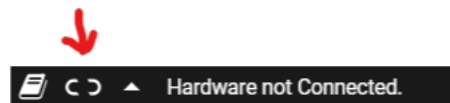

Figure 5. COM Port Status When Ports Are Not Connected
- If the app does not connect to the CFG_port or the connection fails, try to connect to the target by clicking in the bottom-left corner of the app (see Figure 5). For mmWave SDK 3.3 and earlier, DATA_port will show connected only after the sensor is configured and sending detected objects. For mmWave SDK 3.4 and later, both CFG_port and DATA_port will show connected if the ports are valid.